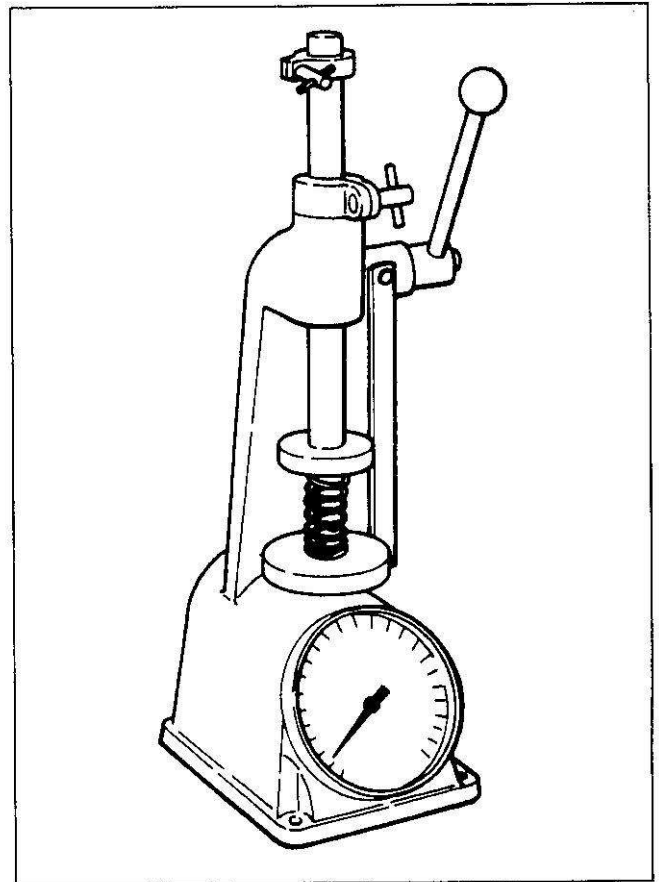

Figure 36. Measuring Valve Spring Tension
- Valve spring tension (figure 36). Check the spring at the specified length.